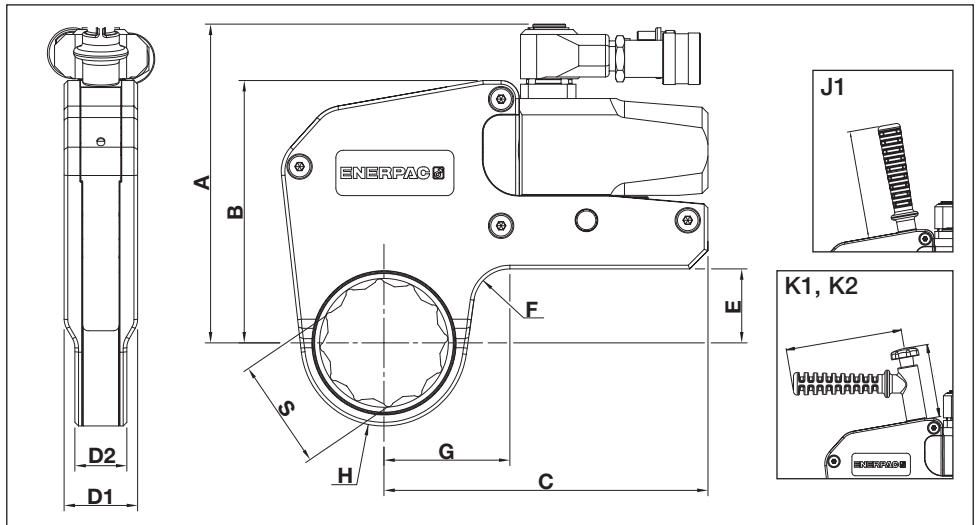

Fig. 22
6.1 Capacities, Dimensions and Additional Product Data (Fig. 22)
6.2.1 Metric System Table - W2000SL and W4000SL UltraSlim Cassettes (see Fig. 22 for locations of dimensions S, H and G)
6.2.2 Imperial System Table - W2000SL and W4000SL UltraSlim Cassettes (see Fig. 22 for locations of dimensions S, H and G)